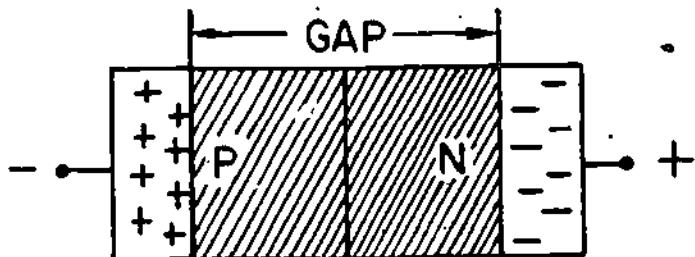

Figure 19
(21) A varactor diode must be operated with reverse bias. In a varactor, a negative voltage applied to the terminal of the P-type material will attract the positive particles. This causes them to move away from the PN junction. In a similar manner, a positive voltage applied to the terminal of the N-type material will attract the negative particles, causing them to move away from the PN junction. This reverse bias voltage increases the size of the depletion region. Figure 19 shows this condition.